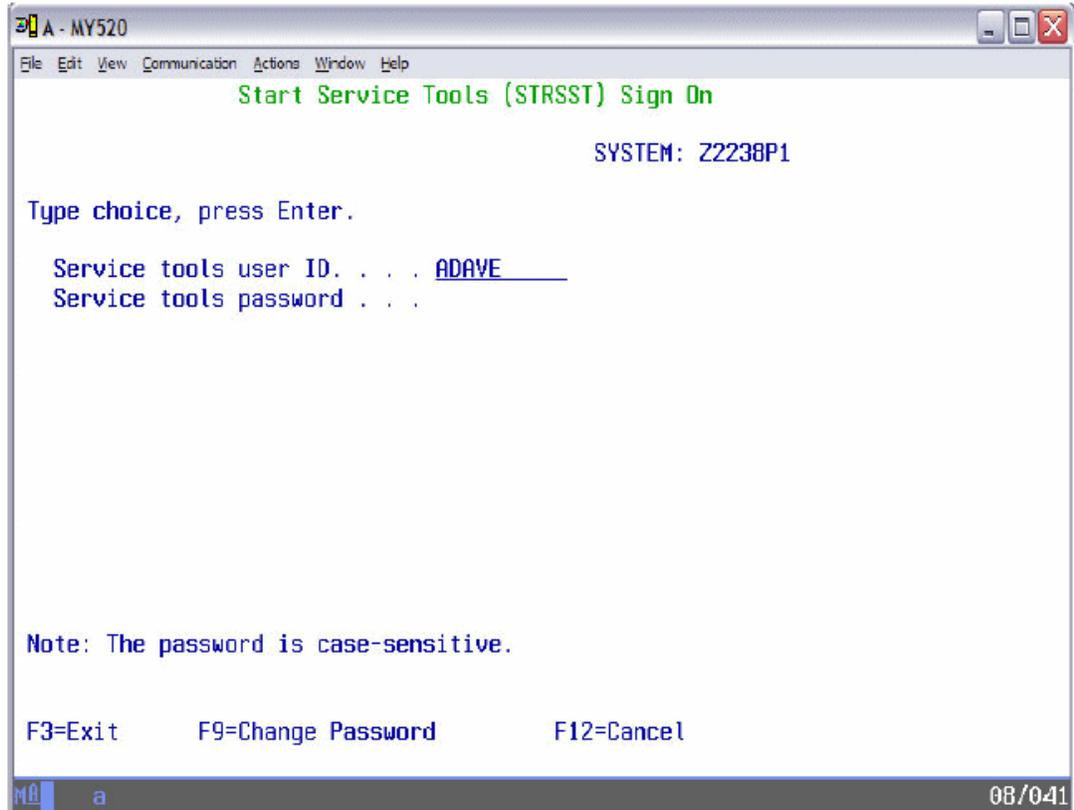

Figure 13-3 Start Service Tools sign-on screen
2. Enter your user ID and a password as seen in Figure 13-3. This assumes that your Security Officer already created a DST/SST user profile for you to use, and provided adequate privileges to allow you to perform partition creation and management tasks.